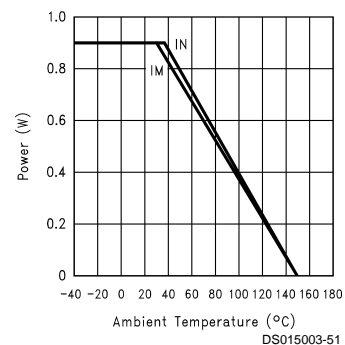

FIGURE 12. Power Derating Curve
3. Calculate the total RMS power: $P_t = P_{amp} + P_O$. The maximum power that the DIP and SOIC, packages can dissipate at a given temperature is illustrated in *Figure 12*. The power derating curve for any CLC5632 package can be derived by utilizing the following equation: